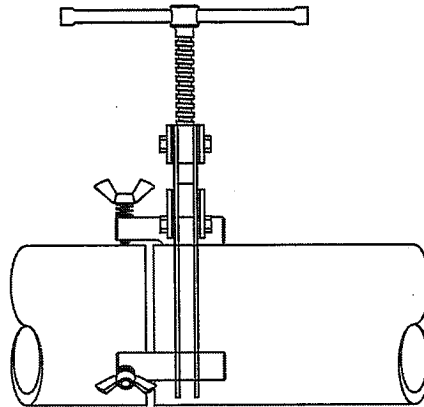

Figure 2
- 2) Next, place the second piece to be fitted into the Tri-Clamp™ and, using the two lower wing nut screws, adjust the height of the fit-up. The top wing nut screw is for holding the fitting or flange in place. (See Figures 2 and 3).